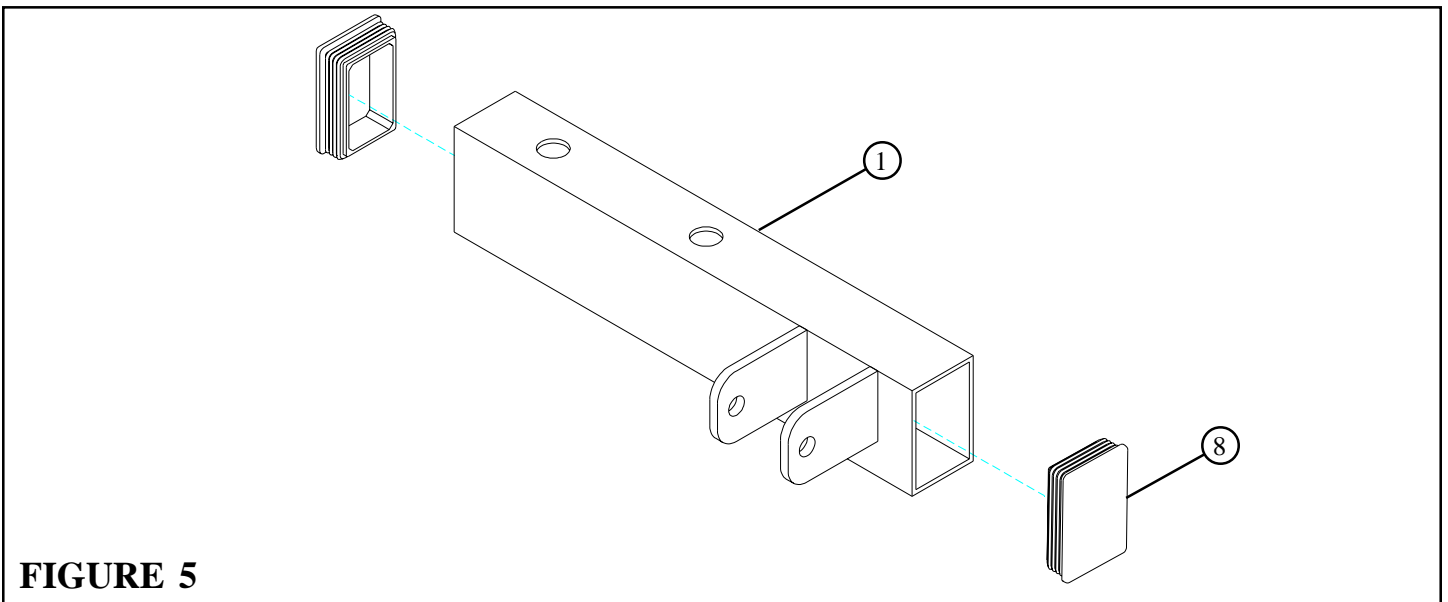

FIGURE 5
- Insert two 3 X 2" END CAPS (8) into the ends of the STACK BASE (1) as shown in FIGURE 5.